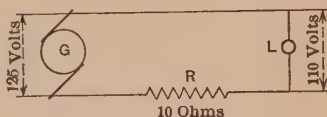

FIG. 76.
**Prob. 17.** The generator *G*, Fig. 76, furnishes 1.5 amp. to the line at 125 volts pressure. What power is consumed: